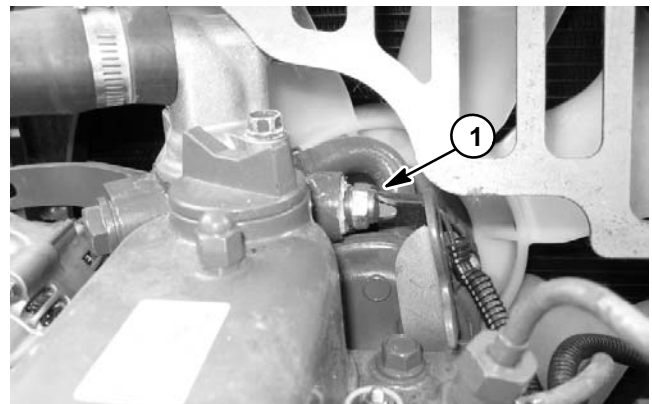

Figure 12
E. Disconnect blue wire from temperature sender (Fig. 12).